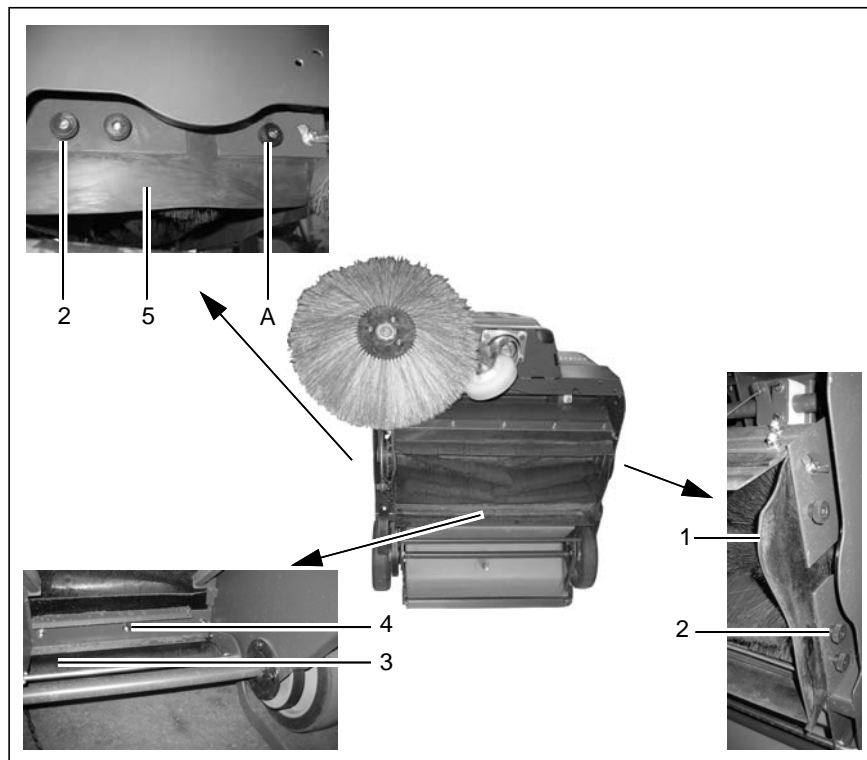
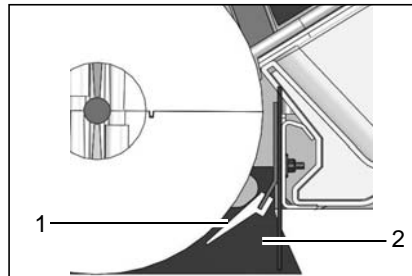

Fig. 22
Fig. 23
2. Unscrew the screw connections (Fig. 22/2) in the side aprons (Fig. 22/1+5).
3. Change the sealing strips and adjust the side aprons (Fig. 22/1+5): There must be approx. 0.04 - 0.08 in clearance to the floor.
4. Screw the screw connections (Fig. 22/2) back in the side aprons (Fig. 22/1+5). Also screw the ground of the wing nut at Position A (Fig. 22/A).
6. Unscrew the screw connections (Fig. 22/4) in the rear aprons (Fig. 23/1+2).
7. Change the sealing strip and adjust the rear apron (Fig. 22/3): The clearance of the rear apron (Fig. 23/2) from the ground must be 0.04 - 0.08 in.
8. Screw the screw connections (Fig. 22/4) back in the rear aprons (Fig. 23/1+2).